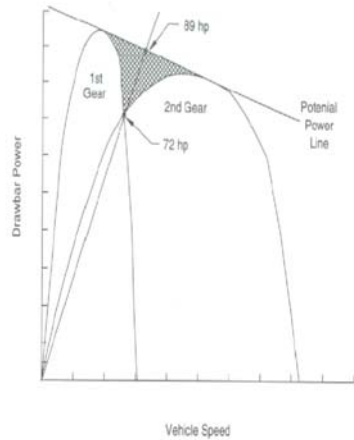

FIGURE 6.4 Output power produced when vehicle is shifted from first to second gear.
- Shifting from first gear to second gear can produce an output power curve (Refer Fig 6.4)